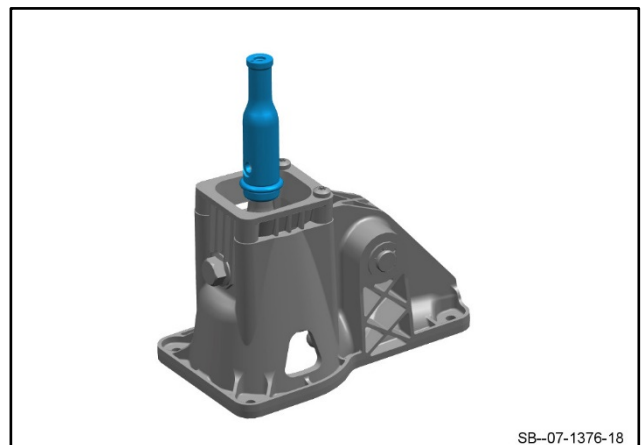

Figure 16
18. Put the extension for the gear selector into position (refer to Figure 16).